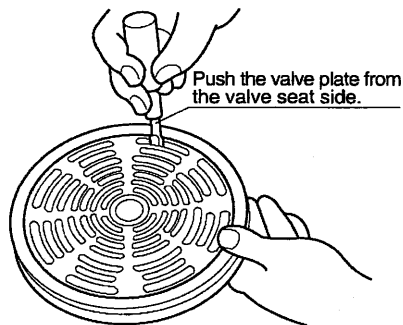

Fig. 31
- (1) Push the valve plate from the valve seat side using a driver or steel bar (3mm dia.), and check abnormality of valve plate face, and action of spring. (Fig. 31)